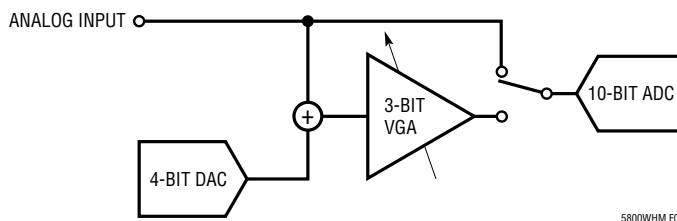

Figure 8. Analog Input Chain
**AI\_0, AI\_1, AI\_2, AI\_3:** Analog Inputs. These pins are multiplexed to the analog input chain. The analog input chain, as shown in Figure 8, is software-configurable and includes a variable-gain amplifier, an offset-DAC for adjusting input range, and a 10b ADC. Valid input range is between 0 to 1.8V.